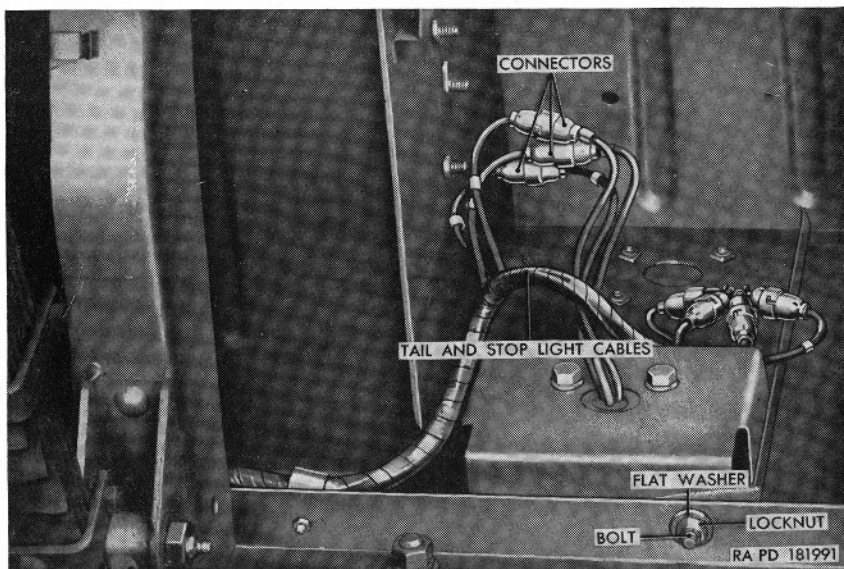

Figure 26.7. (Added) Body hold-down bolts rear cross member, service tail and stoplight, and trailer electrical coupling cables M170.
4. Disconnect the three cables at the connectors for the service tail and stoplight (fig. 26.7). Remove the bolt and nut securing each trailer receptacle cable to the body.